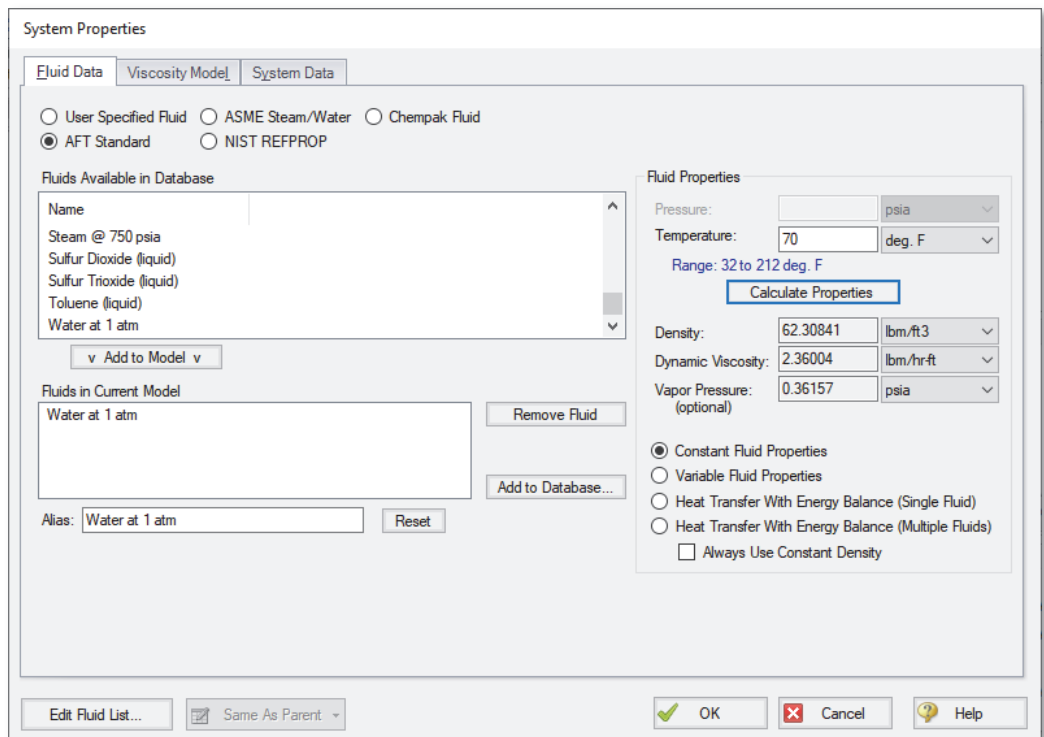

Figure 2.7 The System Properties window lets you select fluids for the model and create mixtures
- **Select System Properties from the Analysis menu** to open the System Properties window (see Figure 2.7). For this example, use the AFT Standard database and select “Water at 1 atm” in the upper list, then click the “Add to Model” button. Enter a temperature of 70 deg. F and click the Calculate Properties button.